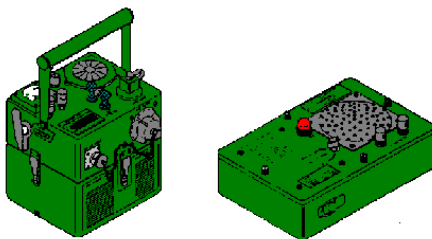

Figure 3, M8A1 Chemical Agent Alarm
- **M8A1 Chemical Agent Alarm:** TO 11H2-17-1: The M8A1 alarm detects nerve agent vapors and immediately sounds an alarm. Use it as a point sensor or as a remote system when attached to an M42 alarm unit. When you direct them, your monitoring teams will assemble, operationally check, and position the M8A1 alarms. This detector should be positioned around the perimeter upwind of the base. See Figure 3.